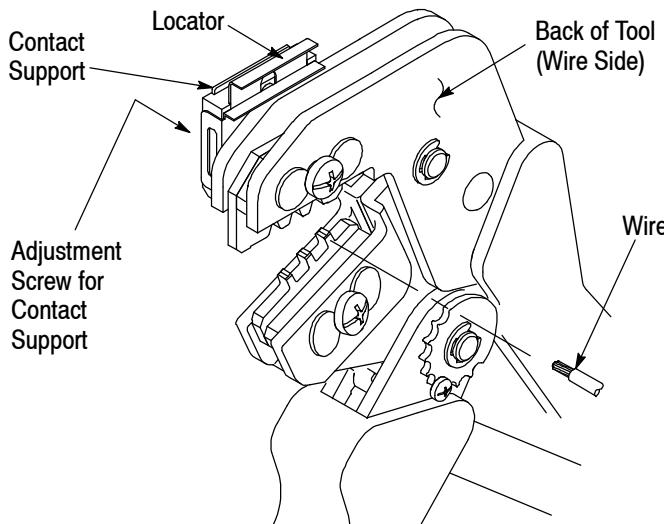

Figure 3
4. CONTACT SUPPORT ADJUSTMENT (Figure 3)
Refer to the table in Figure 1 and select wire of the specified size and insulation diameter. Strip the wire to the length indicated in Figure 1, taking care not to nick or cut wire strands. Select an applicable contact and identify the appropriate crimp section according to the wire size markings on the tool. Refer to Figure 3 and proceed as follows:
3. Position the contact so that the mating end of the contact is on the locator side of the tool, and so that the open "U" of the wire and insulation barrels face the top of the tool. Place the contact up into the nest so that the movable locator drops into the slot in the contact. Refer to Figure 3. Butt the front end of the wire barrel against the movable locator.
5. Insert stripped wire into contact wire barrels until it is butted against the wire stop, as shown in Figure 3.
The crimped contact may stick in the crimping area, but the contact can be easily removed by pushing downward on the top of the locator (see Figure 3).